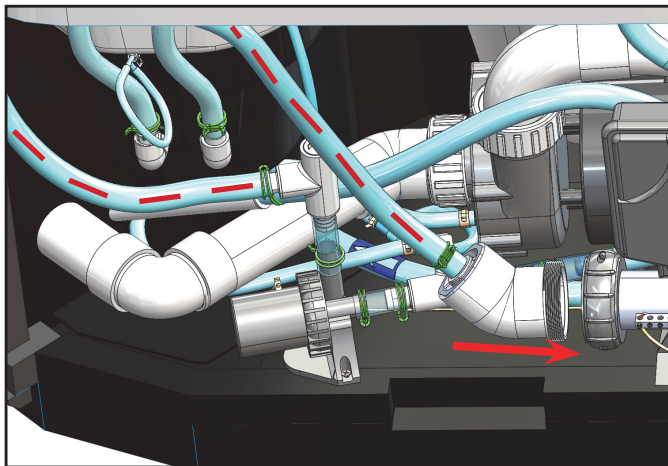

Figure 14.1
1. Locate connection (B1) and connect it to the heater connector on the left side of equipment compartment as seen in (Figure 14.1).